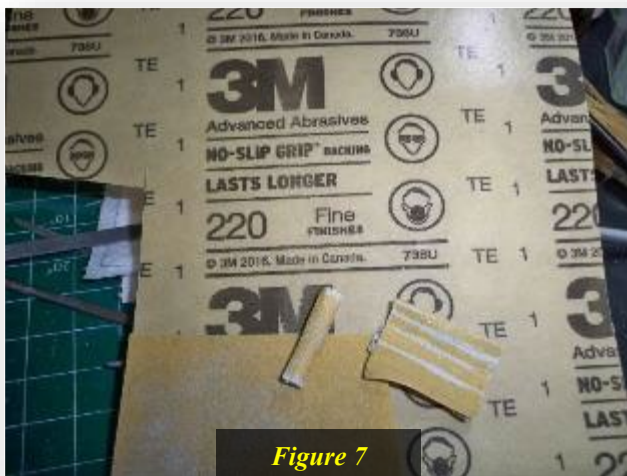

Figure 7
5. (Figure 7 next page) And speaking of sandpaper. I have found the illustrated grade of sandpaper excellent for all plastic except clear parts. A pack like this will last years. Cut off pieces that you can roll, fold, shape to whatever item you need to sand and surprisingly this grit doesn't scar the plastic but does aggressively remove what you want to remove. It doesn't say here but the paper's abrasive is Aluminum Oxide. That's a key word(s) when you get it!